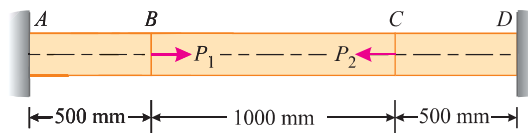

Fig. 4.9
4. A prismatic bar ABCD has built-in ends A and D. It is subjected to two point loads P_1 and P_2 equal to 80 kN and 40 kN at B and C as shown in Fig. 4.9.